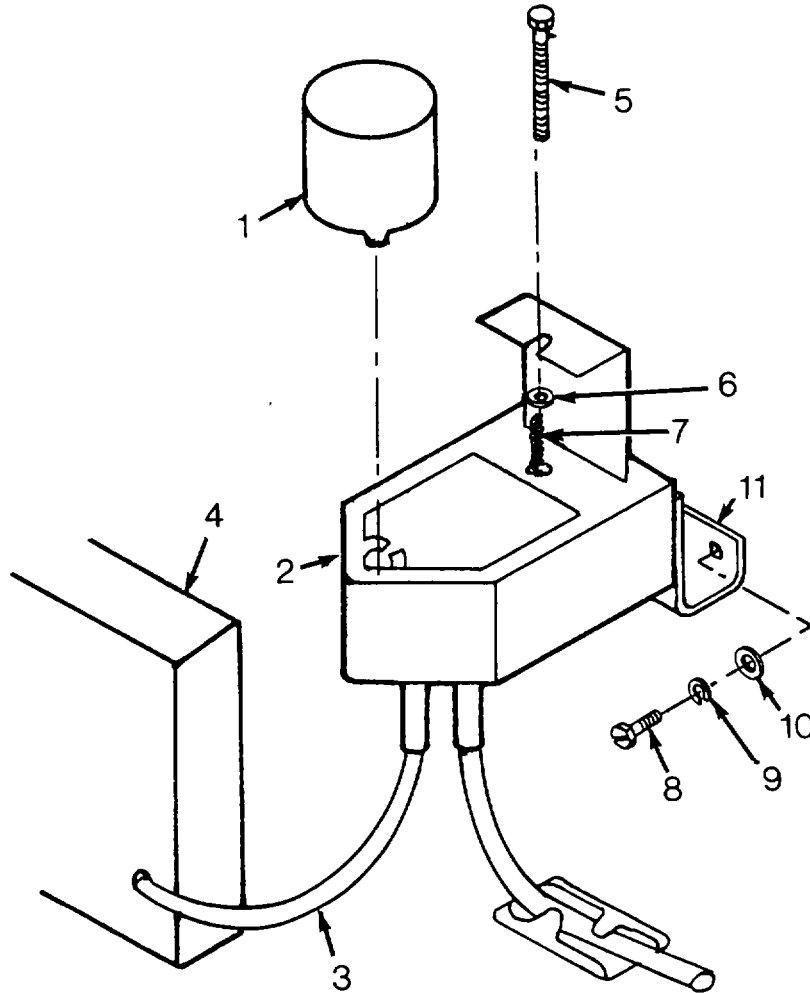

Figure 4-2. Water Bottle Installation
- b. Replace. (See Figure 4-2.)
b. Replace. (See Figure 4-2.)